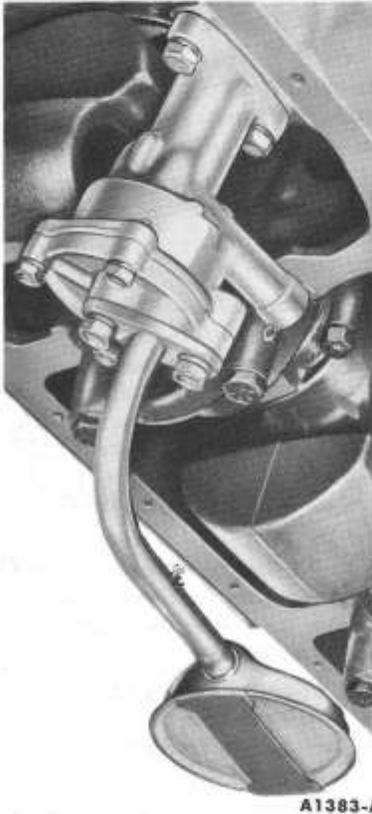

FIG. 73—Oil Pump Inlet Tube Installed
3. Clean and install the oil pump inlet tube and screen assembly (Fig. 73).